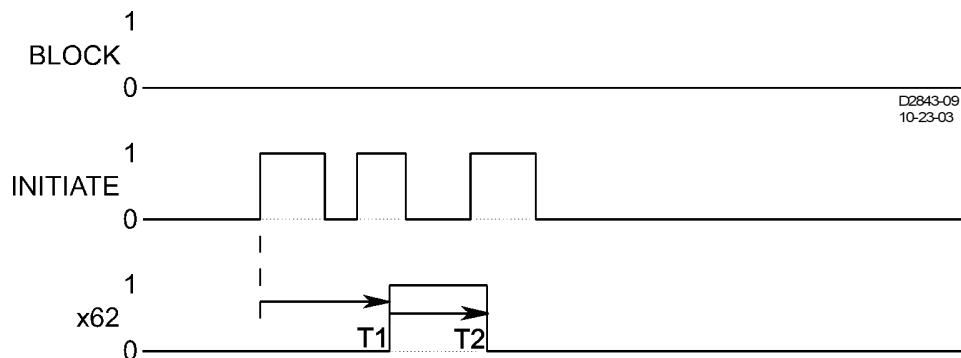

Figure 13-2. Mode 2 and x62 Timer Relationship Example
Step 3: Use the RS-LGC command to retrieve logic variable data from the SER. Verify that a 143 FALSE-TRUE-FALSE pulse action was logged and that approximately 400 milliseconds after the initial 143 FALSE-TRUE-FALSE initiate signal action, the 162 Timer output went TRUE. Then, approximately 20 seconds later, duration Timer T2 expired and the timer output went FALSE despite a second 143 FALSE to TRUE initiate signal while the duration timer was active. Figure 13-2 illustrates the timing relationship of the 143 Switch and x62 Timer.